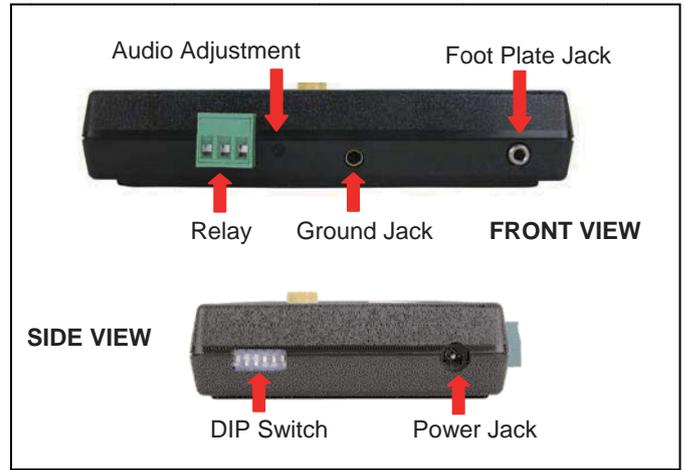

Figure 2. Model 920 views
The resistance limits for footwear and wrist strap tests are controlled by the DIP switches located on the left-side of the tester (see Figure 2). See the following tables for the DIP switch settings and their corresponding test values.
- III. Insert one end of the Stereo Plug to Stereo Plug cord into the stereo jack located at the bottom of the tester (see Figure 2). Insert the other end of the cord into the stereo jack at the back of the foot plate.
- IV. Insert the banana plug end of the Banana Plug to Ring Terminal cord into the ground jack located at the bottom of the tester (see Figure 2). Connect the ring terminal end of the cord to equipment ground. This connection will remove any static charge from the user before the test. **NOTE: Failure to correctly ground the tester may result in damage not covered under warranty.**
- V. Insert the power supply plug into the power jack located on the left-side of the tester (see Figure 2). Plug the power supply into an appropriate power outlet.
- V. Insert one end of the Stereo Plug to Stereo Plug cord into the stereo jack located at the bottom of the tester (see Figure 2). Insert the other end of the cord into the stereo jack at the back of the foot plate.
- VI. Insert the banana plug end of the Banana Plug to Ring Terminal cord into the ground jack located at the bottom of the tester (see Figure 2). Connect the ring terminal end of the cord to earth ground. This connection will remove any static charge from the user before the test. **NOTE: Failure to correctly ground the tester may result in damage not covered under warranty.**
- VII. Insert the power supply plug into the power jack located on the left-side of the tester (see Figure 2).